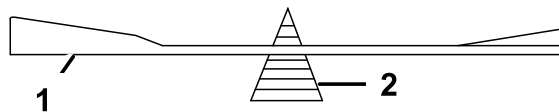

Figure 78
2. Check the balance of the blade by putting it on a blade balancer (Figure 78).